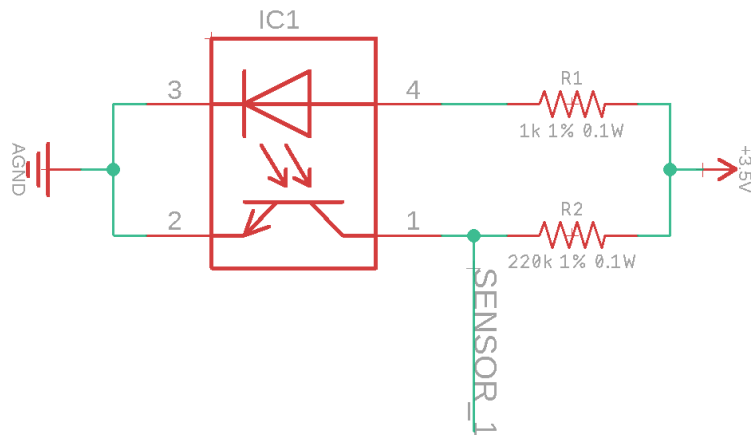

Figure 12 Sensor unit schematic
- Ratio of values of resistors $R1 / R2$ (see Figure 12). If ratio is too low or too large there is very little difference between reading of all white and all black (Figure 14). Ratio should be chosen somewhere in the middle to maximize distance between all white and all black readings.
Figure 12 shows schematic for the sensor unit. It is based on schematics from GP2S60 datasheet, <http://www.pololu.com> (lots of awesome boards which can be used in robot building and prototyping) and from the book Practical Electronics for Inventors by Paul Scherz and, Simon Monk.